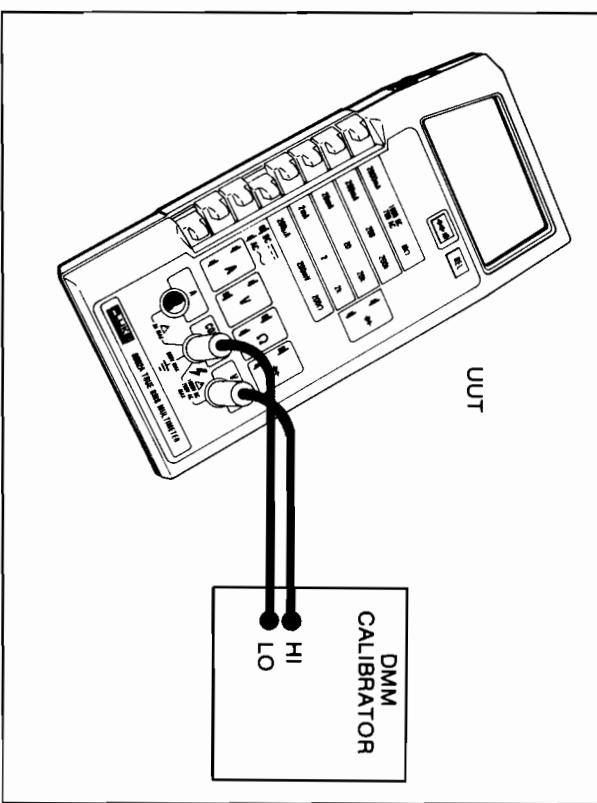

Figure 4-4. General Equipment Connection
1. Connect the UUT and the DMM Calibrator as shown in Figure 4-4.
- Connect the UUT and the DMM Calibrator as shown in Figure 4-4.
3. Connect the equipment as shown in Figure 4-4 and turn on the equipment.
4. On the UUT, select the dc voltage function and the 2 volt range. Turn R6 fully clockwise (CW), and turn R5 fully counterclockwise (CCW).